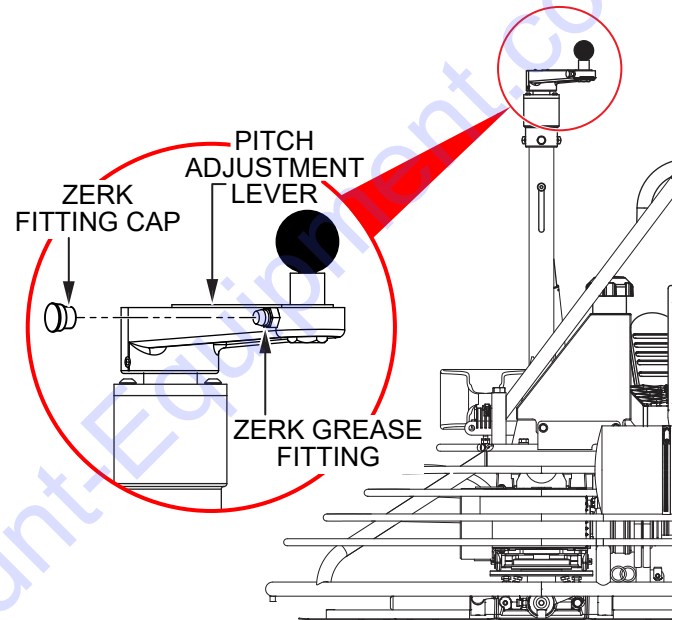

Figure 43. Pitch Adjustment Lever Lubrication
1. Locate the Zerk grease fitting next to the knob on either pitch adjustment lever (Figure 43). Remove the Zerk grease fitting cap and set it aside.